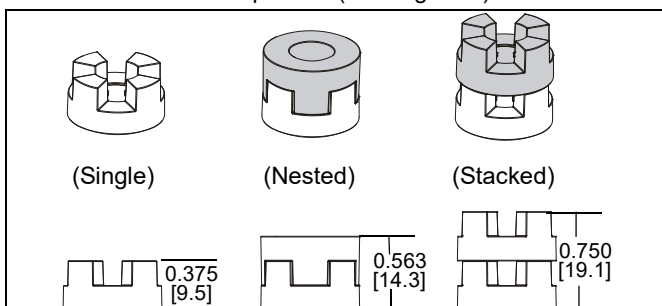

Figure 9
NOTE: The nesting spacers (G) may be used separately, or put two together in different configurations to create different size spacers. (See Figure 9)